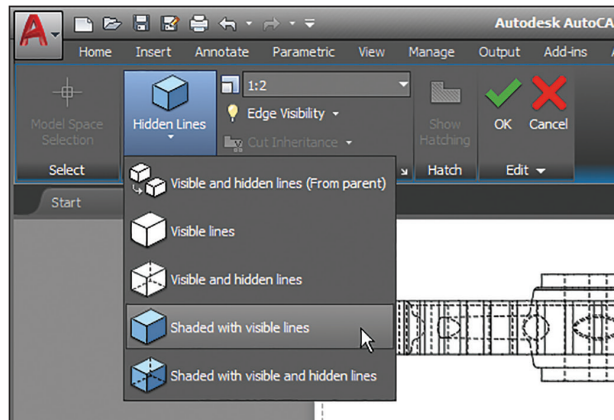

FIGURE 18.23 Changing a view's display properties
8. The isometric view is a bit large. Select it, and you will see a special border appear around the view object. On the temporary Drawing View tab that appears, click Edit View. Change the scale to 1:2 in the drop-down in the Appearance panel. Open the Hidden Lines drop-down and select Shaded With Visible Lines (see Figure 18.23). Click OK in the Edit panel.